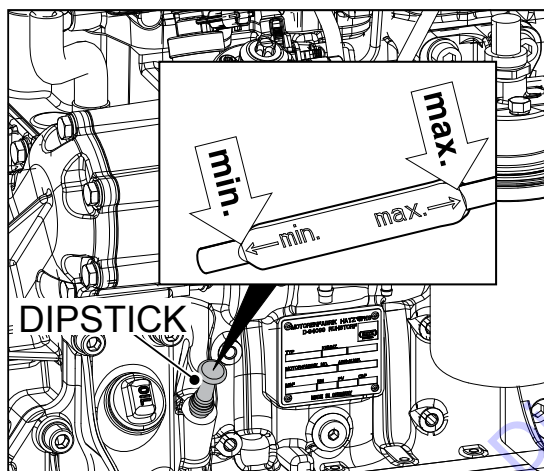

Figure 7. Engine Oil Dipstick
4. Pull out the dipstick and check the oil level (Figure 7).